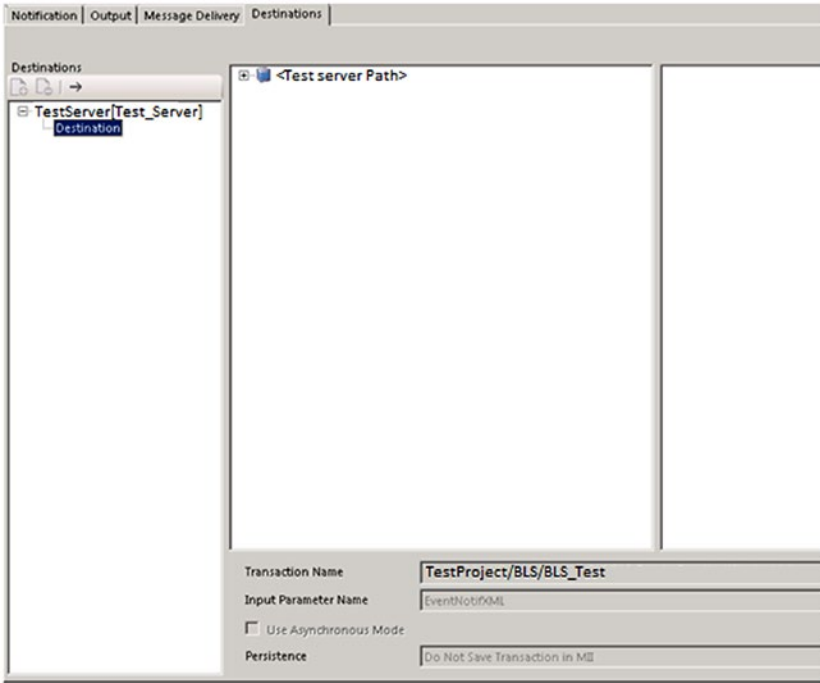

Figure 7-148. Configuring a destination for PCo notification
- Specify the destination system in the Destination tab. The BLS to be executed for PCo notification processing is mentioned here, as shown in Figure 7-148.